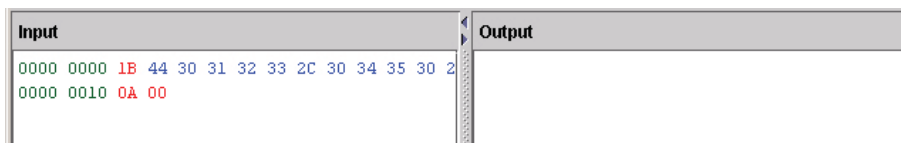

Figure 161 Hex Equivalents of LF and NUL
44. Type **0A00**. To enter the hex equivalent of LF and NUL. See Figure 161.